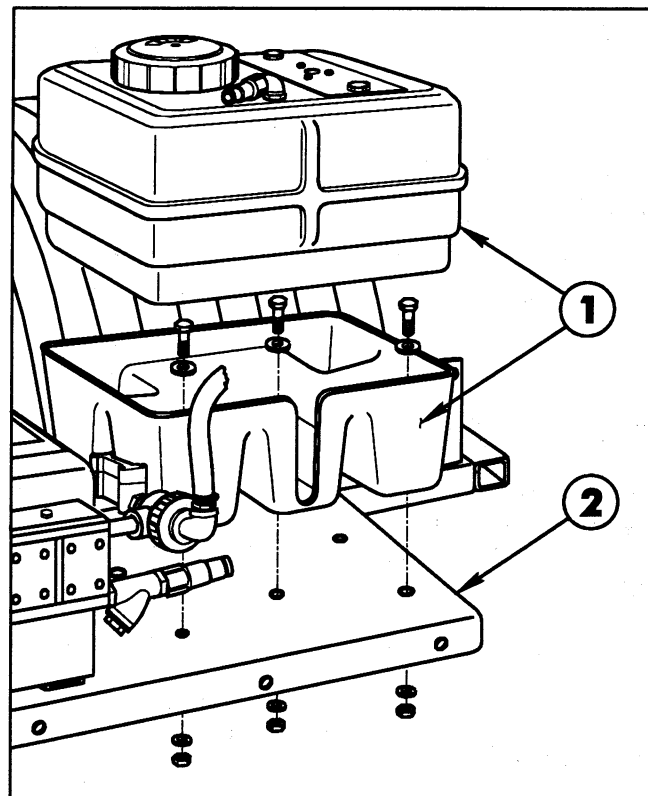

Fig. 2
2. Mount the Injection Tank and Saddle to the front of the Chem 2 Saddle Shelf using the five (5) 3/8" x 1-1/4" cap screws, flat washers and hex nuts. See Fig 2.